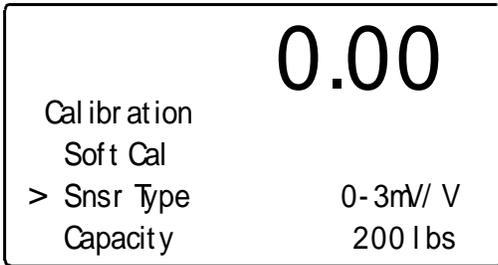

FIG. 2-3 CALIBRATION/SELECTING SENSOR TYPE
Step 4. Press the Enter button. The CALIBRATION Menu appears with the cursor next to "Snsr Type". (See Fig. 2-3)
Step 5. Press the Right or Left arrow buttons to select the sensor type. The sensor types are categorized by the sensitivity of the Load Cell type which is posted on the load cell or with the load cell documentation. (See Fig. 2-3)